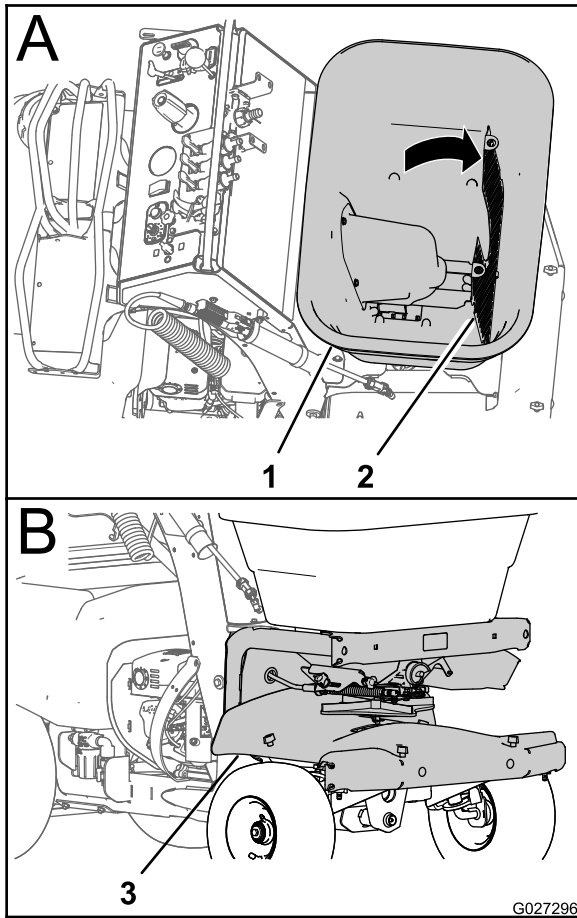

Figure 37
- Using a garden hose, spray the inside and outside of the entire spreader with clean water (Figure 37).
- A. Rotate the hopper screen down (Figure 37).